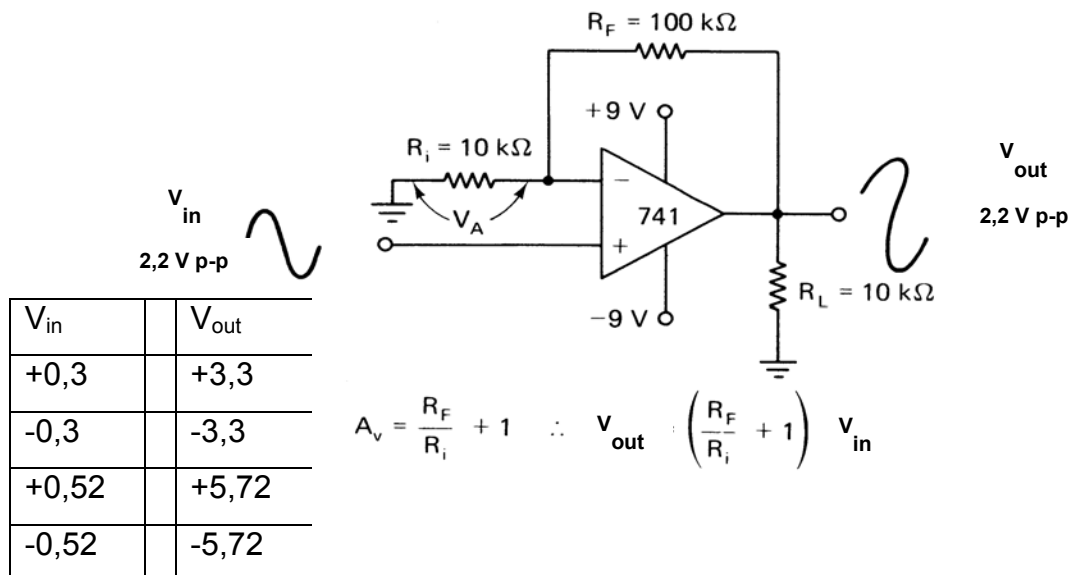

**FIGURE 7.2 – Operational amplifier circuit**
7.5 The operational amplifier in FIGURE 7.2 has been coupled in a certain way. Make use of your knowledge of operational amplifiers to determine the following:
- 7.5.3 Determine the gain at which the amplifier is set, making use of the information provided in the circuit in FIGURE 7.2. (2)